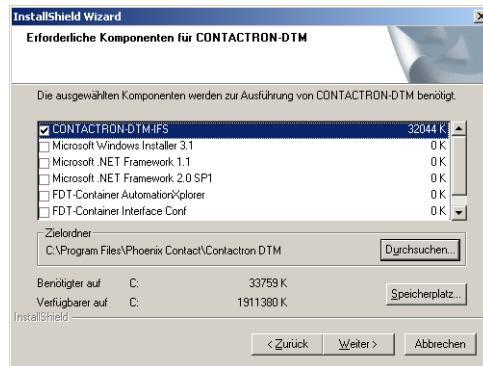

Figure 17-3 CONTACTRON DTM - Selection for CONTACTRON motor management
- In the “Required components...” (Erforderliche Komponenten) window, select the entry highlighted in Figure 17-3.